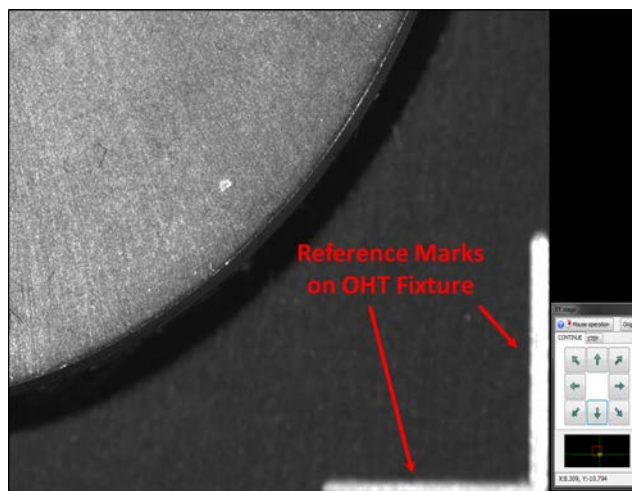

Figure 5 – Establishing Negative Space on the Screen Using Reference Marks on OHT Fixture
2.5. Position the camera near the center of the lifter and then pan the camera down and to the right until the lower right-hand reference marks on the OHT fixture are aligned with the lower right-hand corner of the viewing area (Figure 5). Click and hold the right mouse button to drag the lifter image as needed, or use the arrows on the XY stage menu to move the camera.